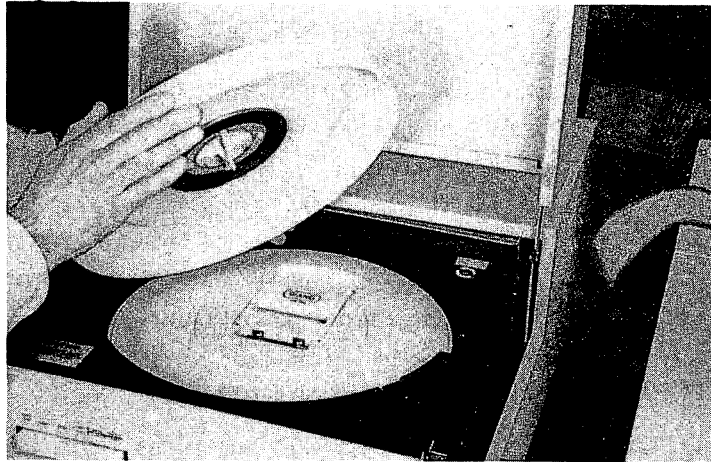

Figure 2-4. Removing the Dust Cover
Step 3 Remove the dust cover (Figure 2-4).